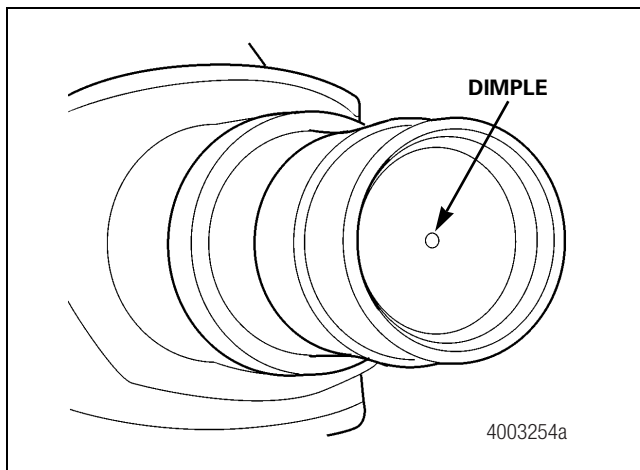

Figure 8.10
3. An acceptable gauge point for measuring “C” and “D” is the dimple in the spindle end plug located on most trailer axles. To reach this plug, remove the rubber hubcap oil filler plugs. Other acceptable gauge points are the edges of the wheel rims as noted earlier. Figure 8.10.